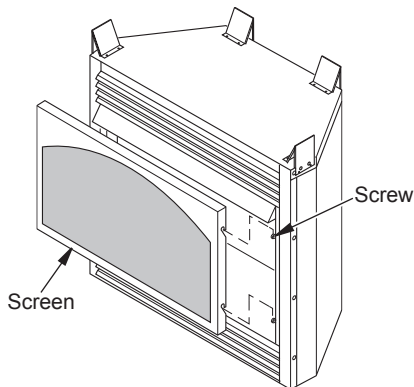

Figure 25 - Screen Placement (Model May Vary From Illustration)
2. Install fireplace screen by slipping notches of fireplace screen over screws on front of fireplace (see Figure 25).